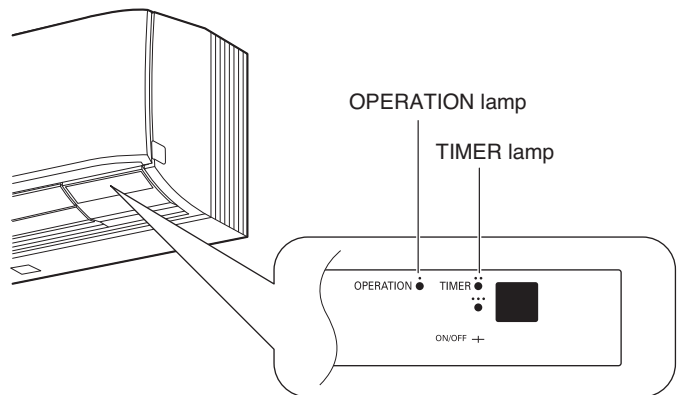

Fig. 13
- This starts the fan producing uncooled forced air with the 3 indicator lamps (OPERATION lamp, TIMER lamp, and ✿) on the main unit blinking. (Fig. 13)